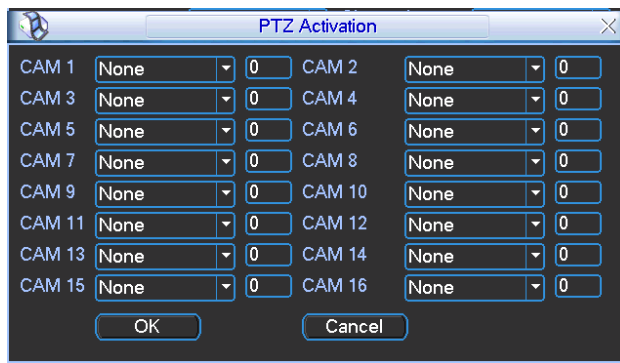

Figure 4-27
- PTZ activation: Here you can set PTZ movement when an alarm occurs. Such as go to preset, tour & pattern when there is an alarm. Click “select” button, you can see an interface is shown as in Figure 4-27.